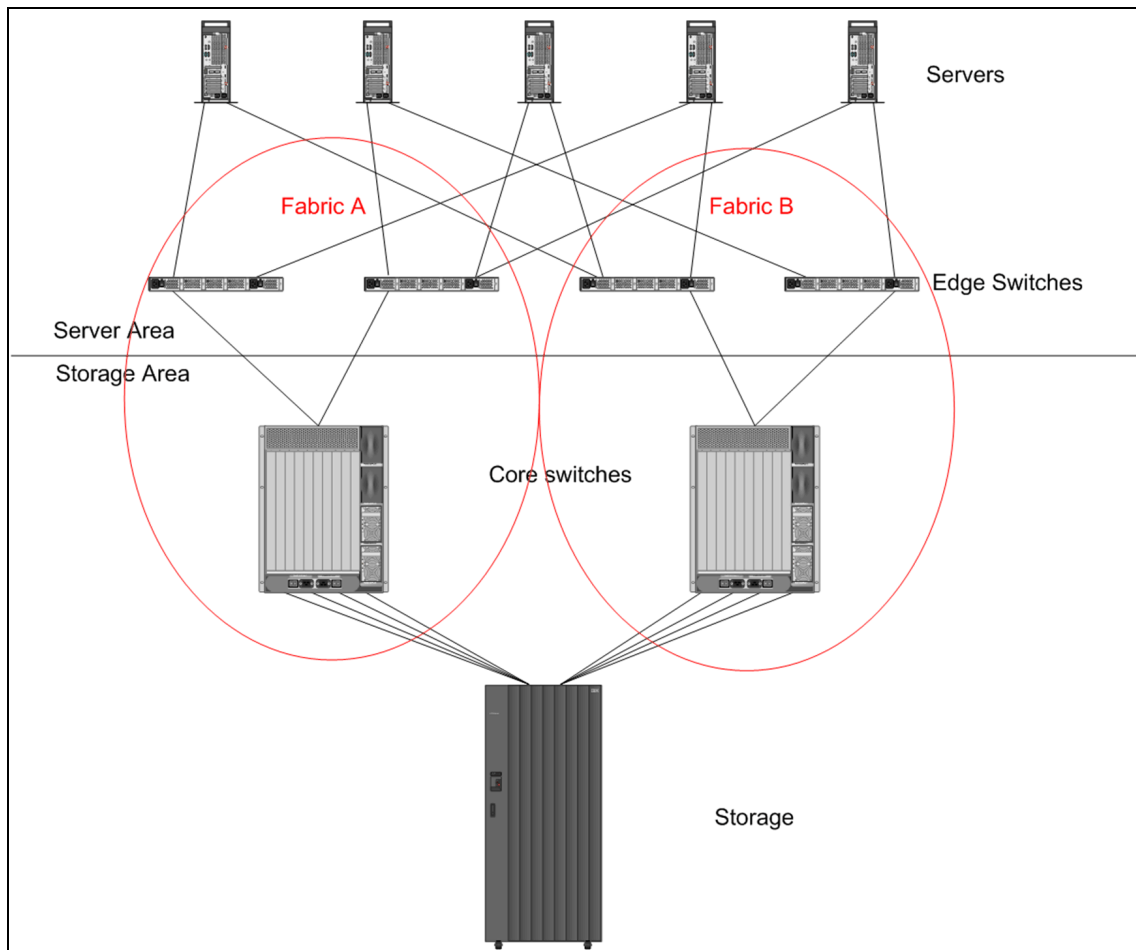

Figure 2-1 Core-to-edge SAN design with director type switches (SAN256B)
In Figure 2-1 we show a core-to-edge SAN design.
- ▶ **High availability:** Firstly, the two fabric design as described in Figure 2-1 on page 22 helps to address the requirement for high availability in the case of a single switch failure in the fabric, or a total fabric failure. Secondly, the core switches have built in high availability components.